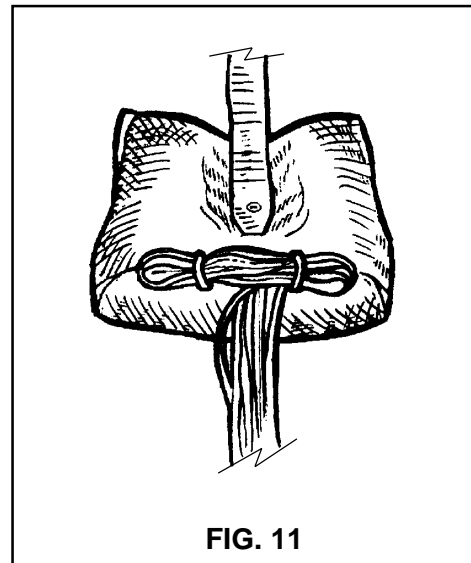

FIG. 11
14. Mate the velcro on the bridle to the velcro on the lower right side of the main container, harness-lateral and leg pad. The excess bridle between this velcro and the curved pin should now be tucked under the right side flap (FIG. 11).
11. Lock the mouth of the free bag by making two stows with the suspension lines in the "Safety Stow". (This is the loop made of 1/8" shock cord) (FIG 11). Javelin "Safety stow" must be used-use of any other may void TSO.